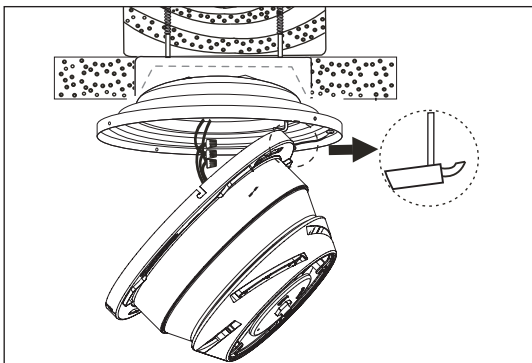

Figure 5
2. Lift fan into position by hanging the motor assembly onto the "J" hook from the ceiling mounting bracket allowing it to hang freely. (Figure 5)